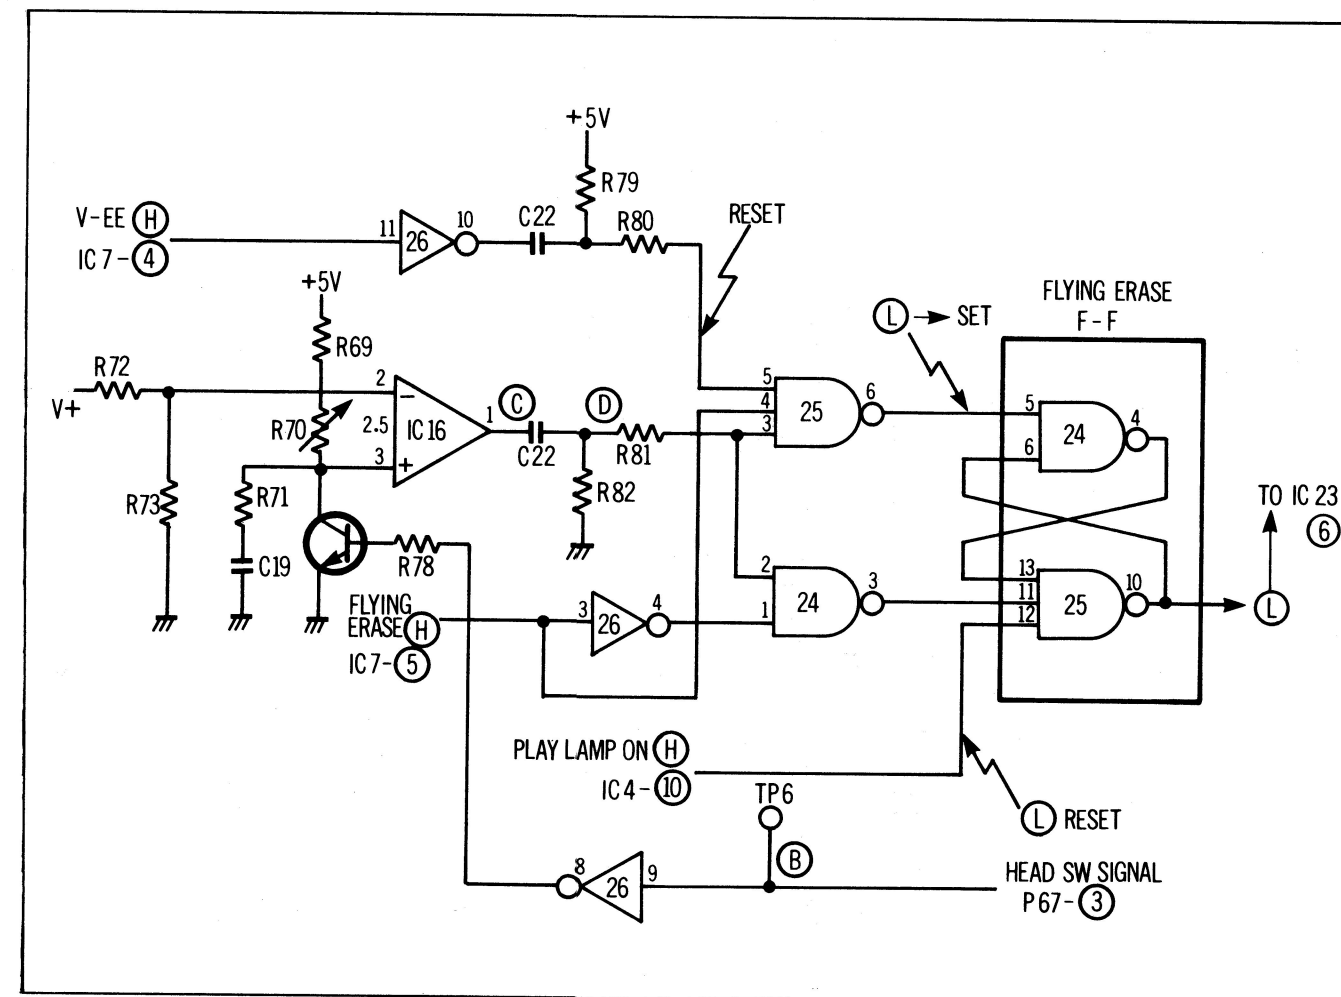

Figure 2-39
is differentiated by C22 and R82 to form a set pulse that is gated with Flying Erase (H) from the MPU (IC7-5). When this point goes low (Flying erase off) the same delay obtains. See Figure 2-39